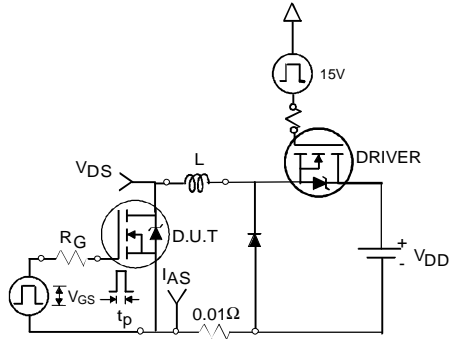

Fig 12a. Unclamped Inductive Test Circuit
- ② Starting $T_J = 25^\circ\text{C}$, $L = 0.38mH$, $R_G = 25\Omega$, $I_{AS} = 29A$, (See Figure 12a)
- ③ $I_{SD} \leq 29A$, $di/dt \leq 420A/\mu s$, $V_{DD} \leq V_{(BR)DSS}$, $T_J \leq 150^\circ\text{C}$
- ④ Pulse width $\leq 300\mu s$; duty cycle $\leq 2\%$.
- ⑤ $C_{oss \text{ eff.}}$ is a fixed capacitance that gives the same charging time as C_{oss} while V_{DS} is rising from 0 to 80% V_{DSS}
- ⑥ Calculated continuous current based on maximum allowable junction temperature. Package limitation current is 30A.